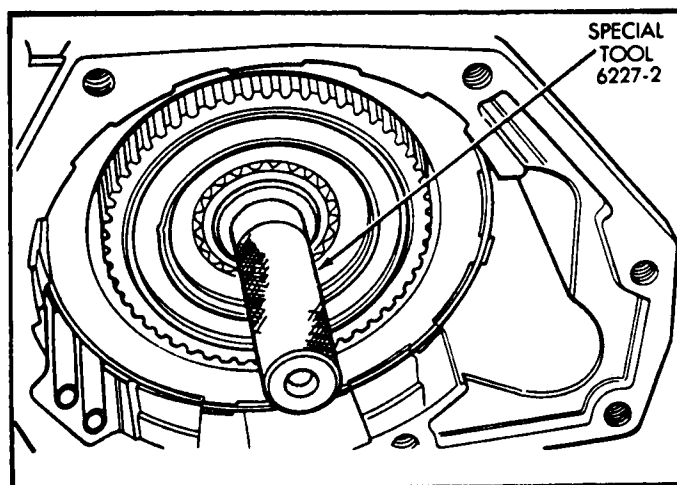

Figure 1
1. Remove the special tool for aligning the overrunning clutch and planetary gear splines, if it was previously installed (See Figure 1).